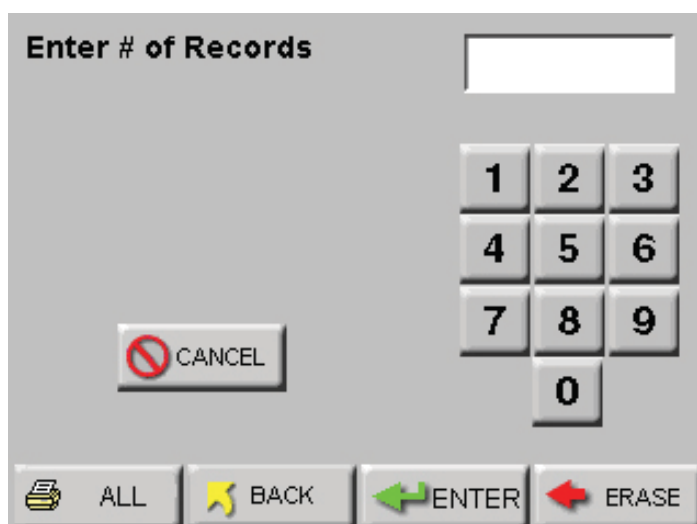

Figure 6-76 Print Range Screen - Buffer
- Press the RANGE button. The Print Range screen will display as shown in Figure 6-76.